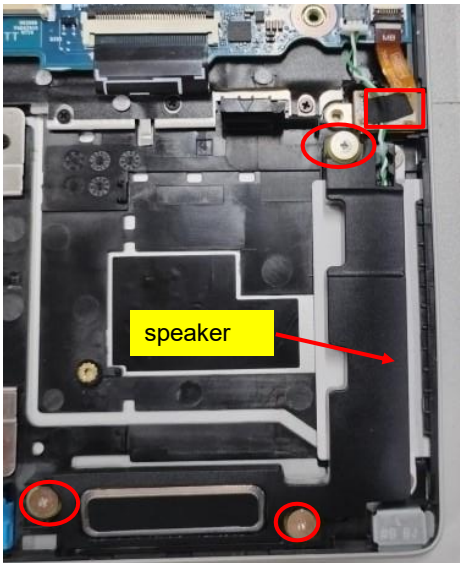

Figure 1
- 1. Loosen the Speaker screws (6052B0155402) *3, remove the speaker (Figure 1).